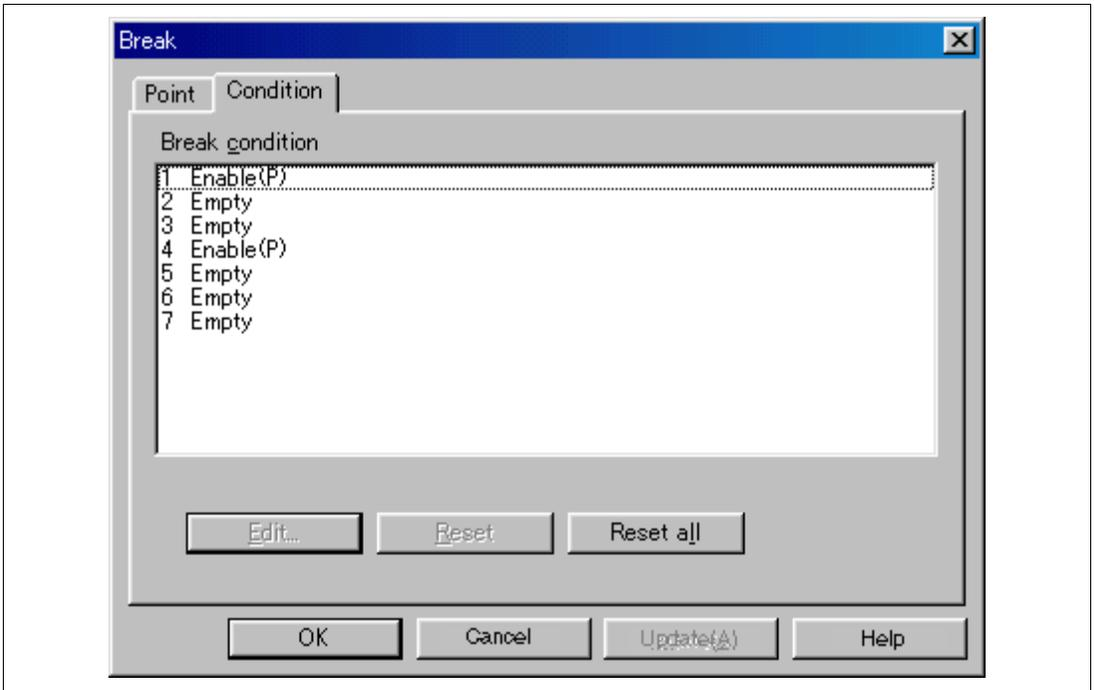

Figure 6.10 [Condition] Page
- Break Condition 1,4 is used as the measurement range in the performance measurement function when (P) is added as shown in figure 6.10. For setting the performance measurement function, refer to section 6.5.7, SH7760 E10A Emulator Useful Functions. This applies when the Break Condition is displayed with the BREAKCONDITION_DISPLAY command in the command-line function. In this case, a break does not occur when Break Condition 1,4 is satisfied.